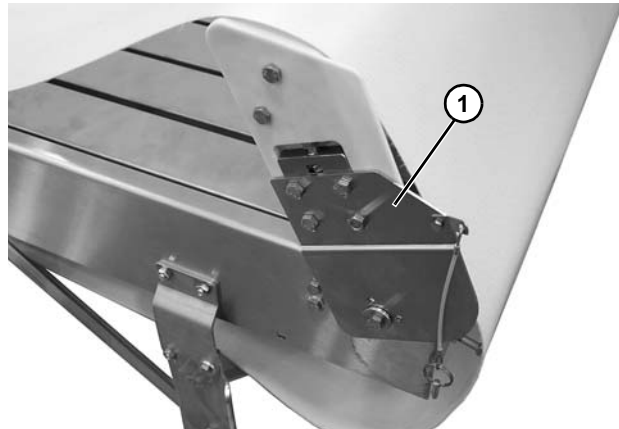

Figure 92
2. Tip up tail (Figure 92, item 1).